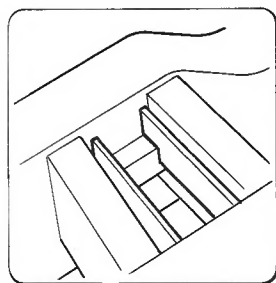
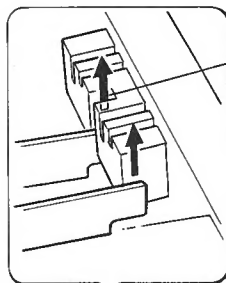
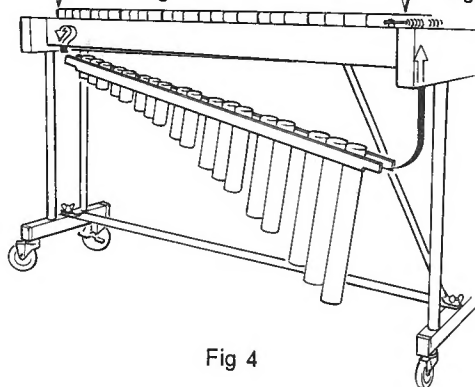

Fig 5
Fig 6
Fig 4
- 5 Insert the resonators from the bottom side of the instrument. (Fig 4) Place the resonators on the treble side first, then on the bass end. (Fig 5) When placing the resonators on the bass end, slide them through the groove in the center of the resonator holder. (Fig 6)